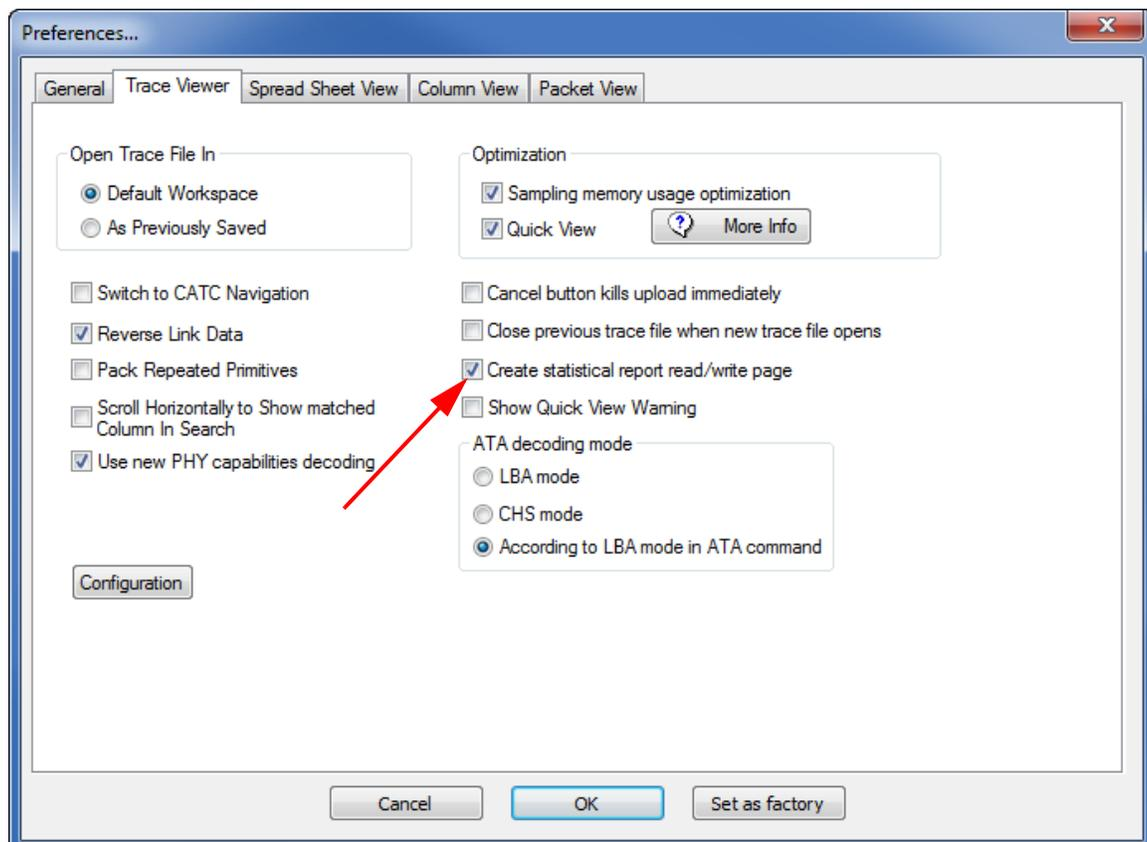

Figure 3.30: Enabling Read/Write Statistical Report
3. Check the box **Create statistical report read/write page** (see Figure 3.30 on page 129.)